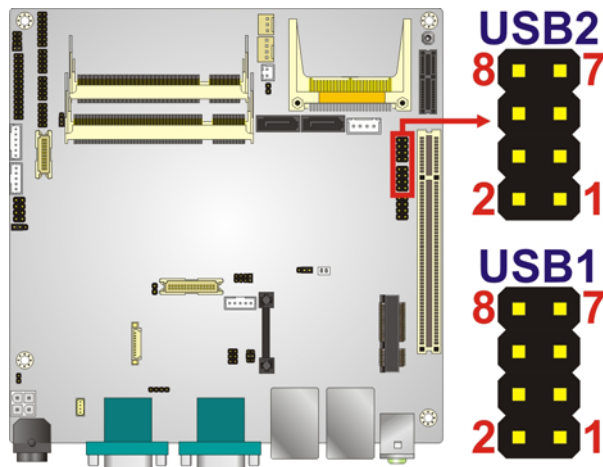

Figure 3-24: USB Connector Pinout Locations
- CN Location:** See **Figure 3-24**